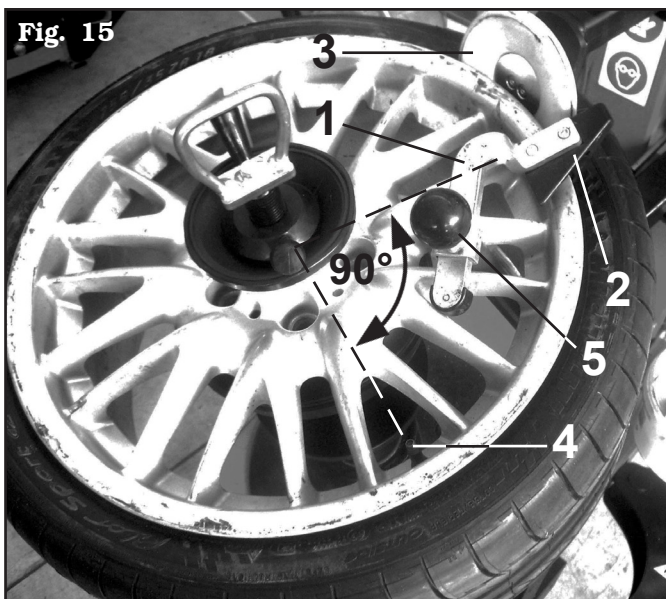

Fig. 15
2 - Insert the Bead depressor (# 710090730) (**Fig. 15 ref. 1**) on the rim and the main block (**Fig. 15 ref. 2**) on its edge as shown in figure. Place the main block (**Fig. 15 ref. 2**) immediately after the bead breaking roll (**Fig. 15 ref. 3**) and at about 90° from the inflation valve (**Fig. 15 ref. 4**).
UTILIZING THE UPPER KNOB (**FIG. 15 REF. 5**) ADJUST THE LENGTH OF THE SUPPORT (**FIG. 15 REF. 1**) SO THAT IT PERFECTLY ADAPTS TO THE DIAMETER OF THE RIM ASSEMBLED ON THE TYRE CHANGING MACHINE.